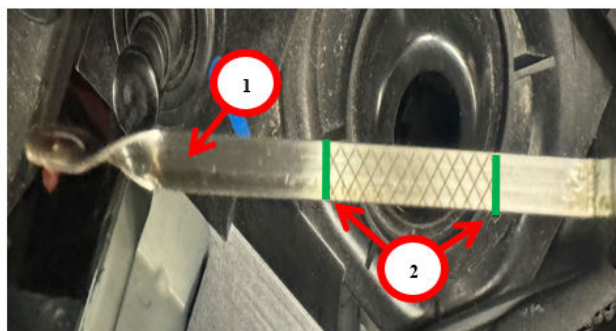

Fig. 1
1. Inspect the engine oil level Fig. 1.
2. Is the oil level low Fig. 1?